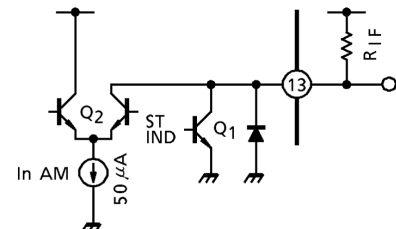

Fig.5 Internal circuit of pin⑬
- The terminal of pin(13) is built in stereo indicator function and modulated AM IF signal output. In AM mode, R_{IF} ($3k\Omega$ or less) should be connected between V_{CC} and pin(13), or pin(13) should be connected to V_{CC} directly. (Fig.5) In case that $R_{IF} > 3k\Omega$ or pin (13) is opened, this IC doesn't operate normally in AM mode. Because transistor Q_2 is saturated.